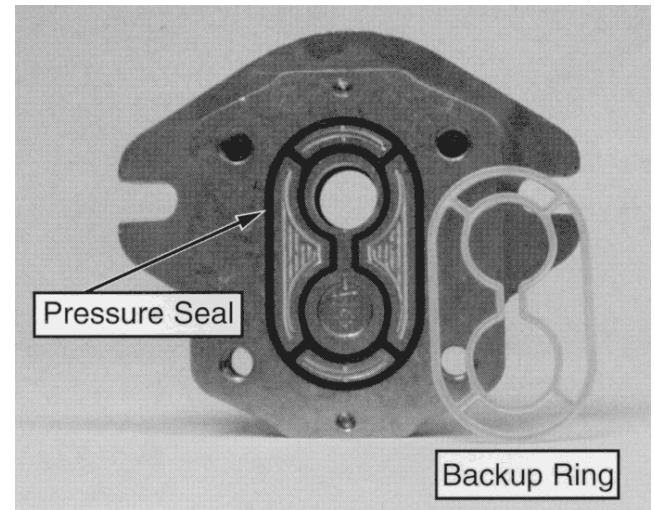

Figure 18e
8. Carefully remove and discard o-rings, pressure seals, and back-up rings (Fig. 18e) from motor. Do not cause any damage to the machined grooves during the removal process.